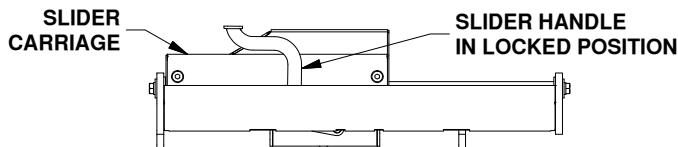

Figure A1: View of driver side of slider base.
**⚠ WARNING:** Whenever the slider base is being moved, the slider handle must be in the locked position, and the carriage must be unable to slide, see Figure A1. Failure to ensure that the handle is in the locked position can lead to property damage or serious injury.